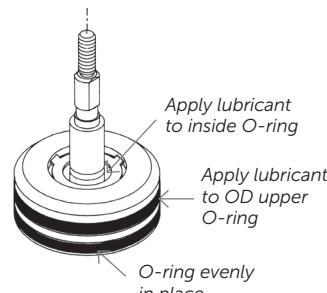

Figure 3
- Begin assembly by applying lubricant (S1) on the diaphragm/retainer assembly (P6) orings (see Figure 3).
- Make sure the O-ring between the diaphragm and retainer is evenly in place (see Figure 3), and then install the diaphragm/retainer assembly (P6) in the valve body (P14) and push the retainer all the way down.